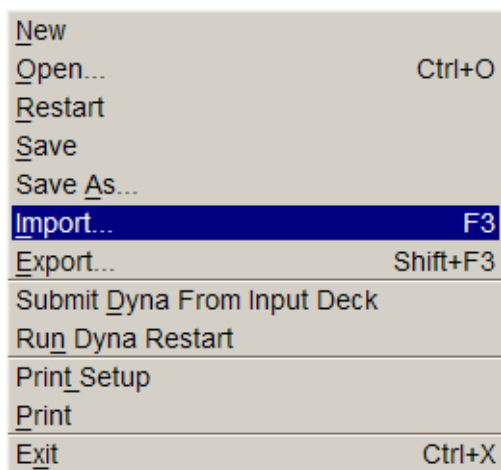

Figure 4.1: Import menu
1. Select menu **File**→**Import** as shown figure 4.1 or click the IMPORT icon